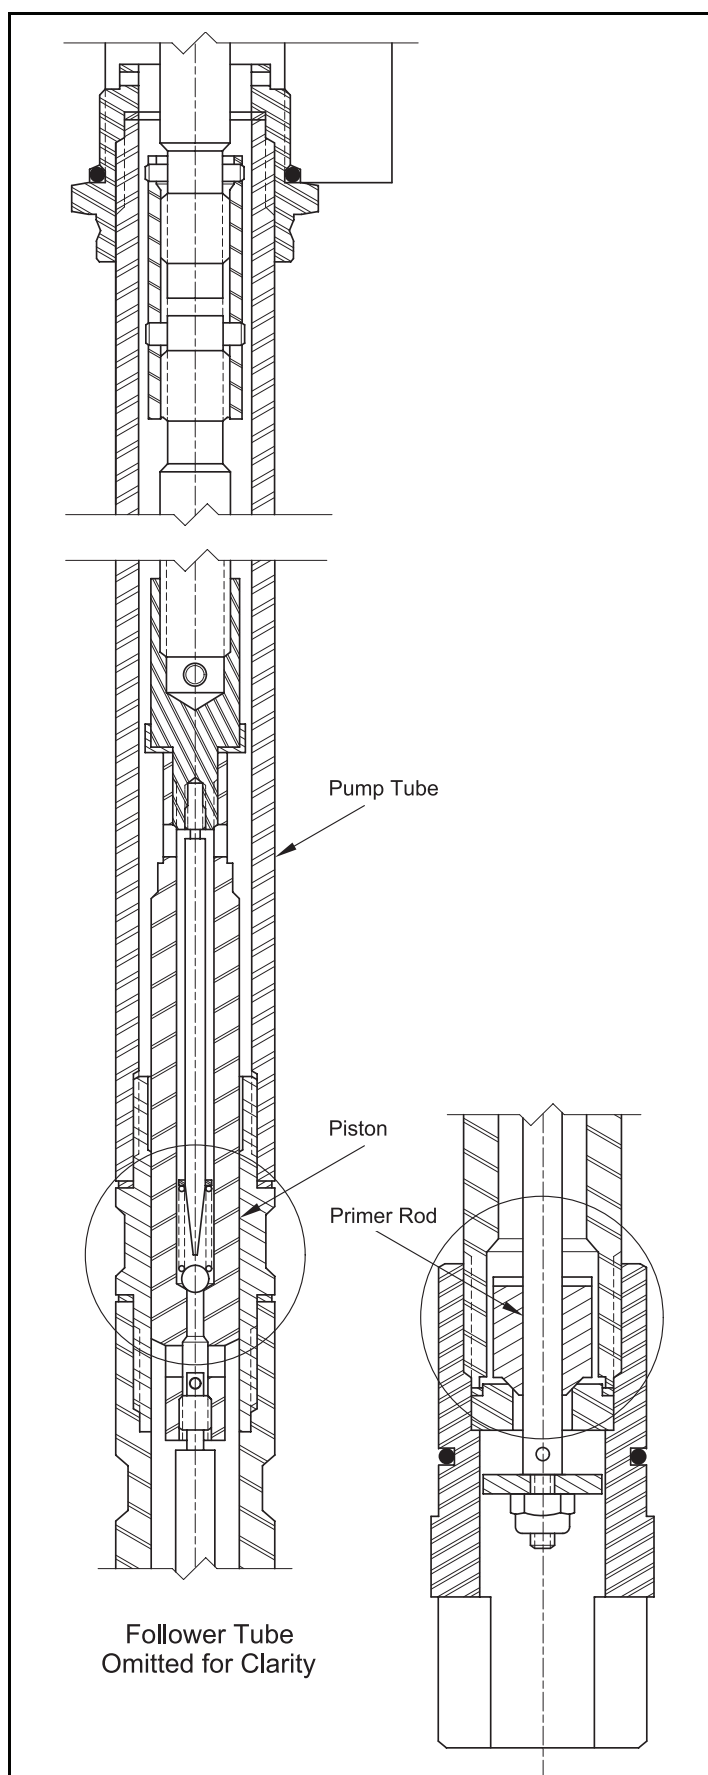

Figure 3 Early Model Pump Tubes - Section View
* For detailed information, refer to **Figure 3**
The earlier versions of these model pumps did not contain seals in the tube assembly. The Piston and Primer Rod cycled in “select-fit” bores. See **Figure 3**.